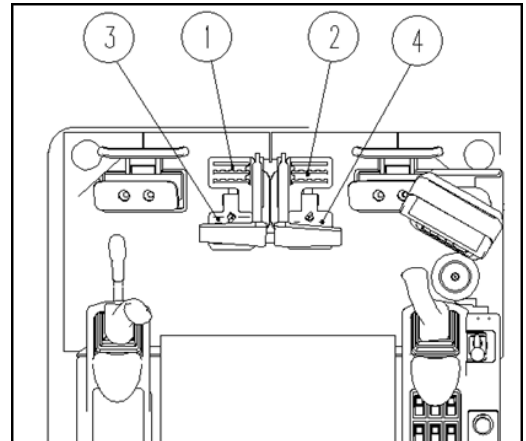
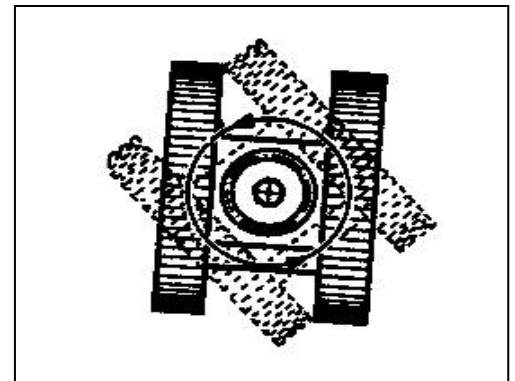
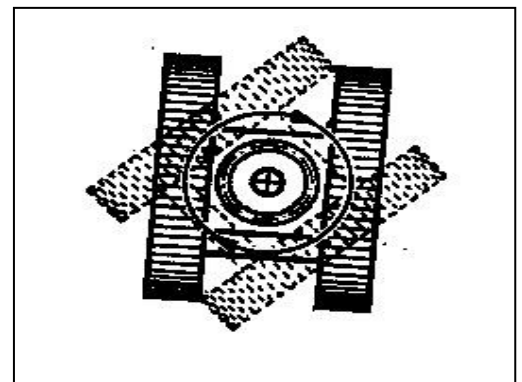

FIG. 4.4.1
FIG. 4.4.2
FIG. 4.4.3
1) **Straight travel:** Step on two pedals forward at the same time. (pedal 1 and 2 in FIG. 4.4.1)
2) **Straight reversing:** Step on two pedals backward at the same time. (pedal 3 and 4 in FIG. 4.4.1)
- Turn left (FIG.4.4.2): Step on right pedal 2 forward and left pedal 3 backwards. (FIG. 4.4.1)
- Turn right (FIG. 4.4.3): Step on right pedal 4 backwards and left pedal 1 forward. (FIG. 4.4.1)
- Left Turning: Step on right pedal 2 forward. (as 3 in FIG. 4.4.1)
- Right Turning: Step on left pedal 1 forward. (as 1 in FIG. 4.4.1)